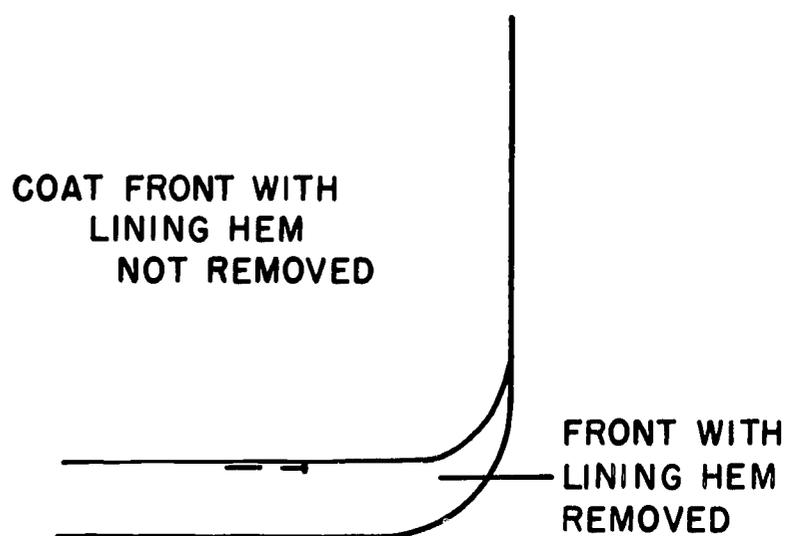

Figure 47.
- Place the wrong side of the opposite coat front on top of the right side of the front which has had the lining stitches removed. The hemline of the one side of the coat front should be on the pin or chalk mark on the other side, which indicates the amount the coat is to be shortened. Be sure that both front edges of the coat are together (see Figure 47). Follow the edge of the top coat front when marking the new hemline so that the original curve of the hemline will not be changed. Mark around the hem edge from the side seam to the front of the coat.